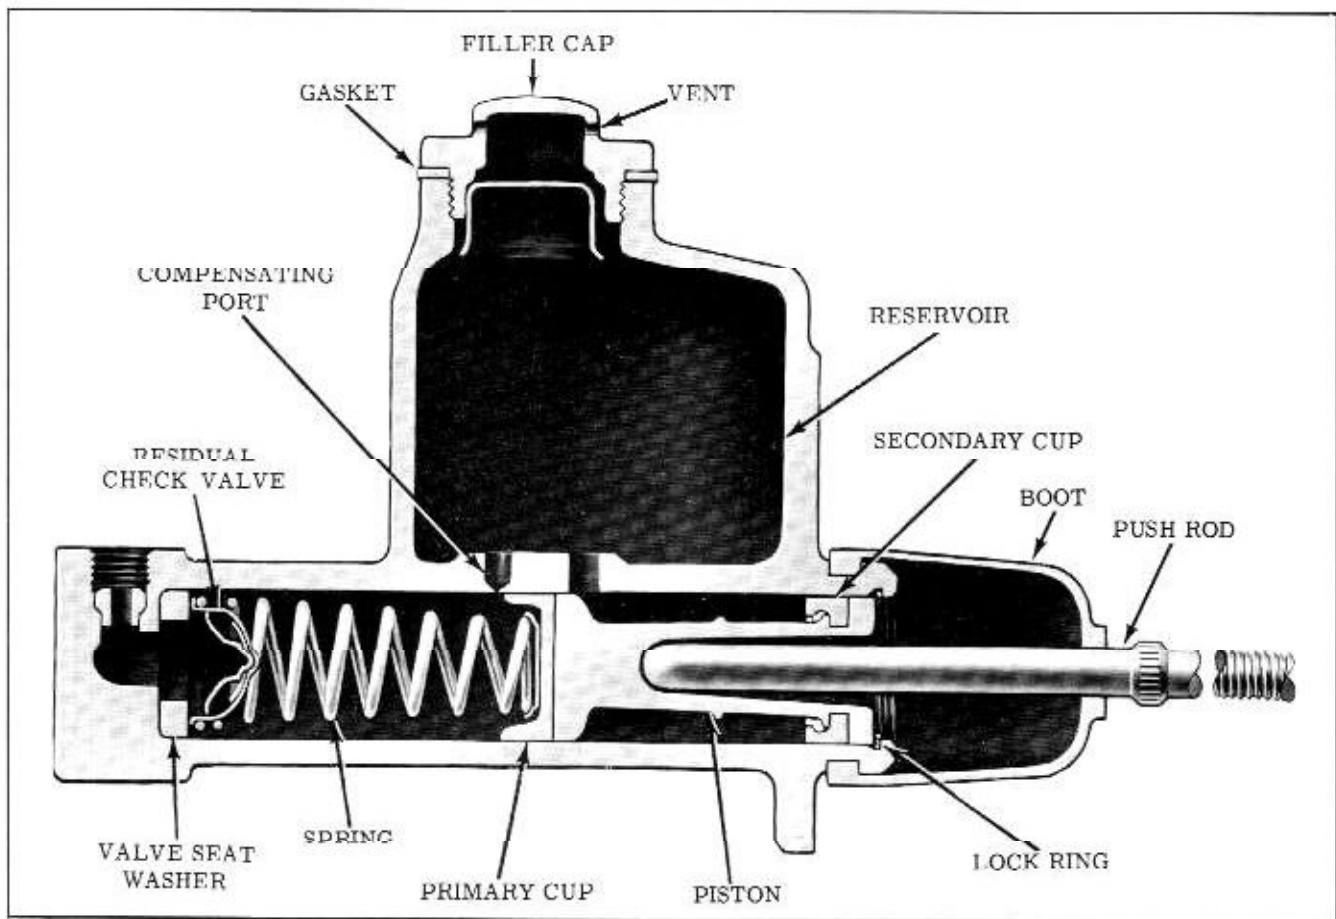

Figure 7-10 Master Cylinder
2. Install check valve rubber washer against the shoulder inside the master cylinder bore. (Fig. 7-10)